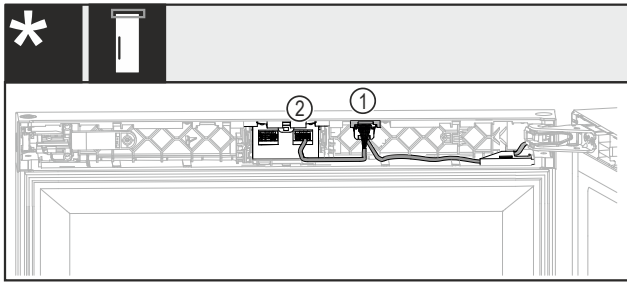

Fig. 46 Without lock or with mechanical lock*
- ▶ Insert the plug with both cables Fig. 46 (1) into the guide.*
- ▶ Engage the plug with a cable Fig. 46 (2) in the right-hand retaining clip.*